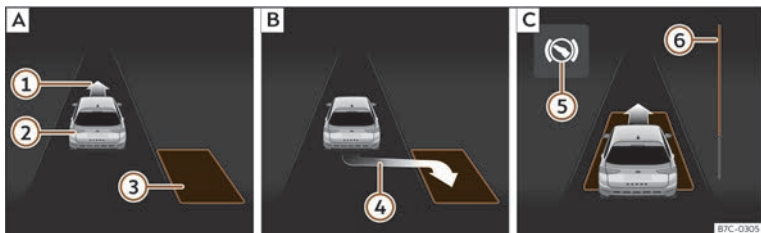
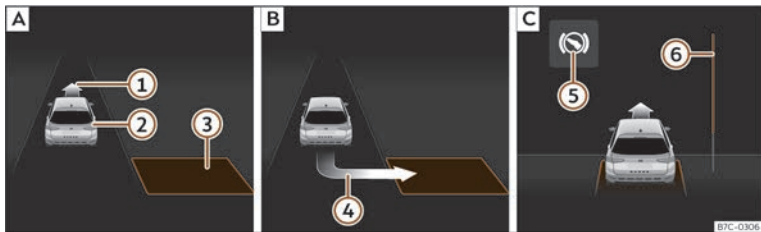

Fig. 134 On the instrument cluster display: parallel parking. **A**: Finding a parking space **B**: Parking position. **C**: Manoeuvring.
Fig. 135 On the instrument cluster display: angle parking. **A**: Finding a parking space **B**: Parking position. **C**: Manoeuvring.
- Look at the instrument cluster screen to see if the space has been detected as “appropriate” and if the correct position for parking has been reached >>> **Fig. 134 B** or >>> **Fig. 135 B**. The space is considered “appropriate” if the instrument cluster display shows the parking indication ④.
- Reverse until the continuous ParkPilot signal sounds; **OR**: reverse until the indication to move forward appears on the instrument panel display >>> Fig. 134 [C] or >>> Fig. 135 [C]; **OR**: reverse until the **Park Assist finished** message appears on the instrument cluster display. The progress bar (6) indicates the distance to cover.
- Press the brake pedal until the parking assist system completes the steering wheel turns; **OR**: until the symbol (S) goes out on the instrument panel screen.
- Move forward until the continuous ParkPilot signal sounds; **OR**: move forward until the reverse indication appears on the instrument panel display. The Park Assist system steers the vehicle forward and back until it centres it in the space >>> Fig. 134 [C] or >>> Fig. 135 [C].
The progress bar >>> Fig. 134 (6) and >>> Fig. 135 (6) on the instrument cluster display shows the relative distance to be covered as a symbol. The greater the distance, the fuller the progress bar. When driving forward,